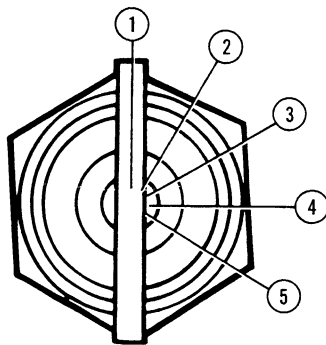

Figure 4
The key-starter switch (11), Figure 3, controls the tractor electrical system, the starting motor, and the Thermostart cold weather starting aid. The key-starter switch positions are shown in Figure 4.